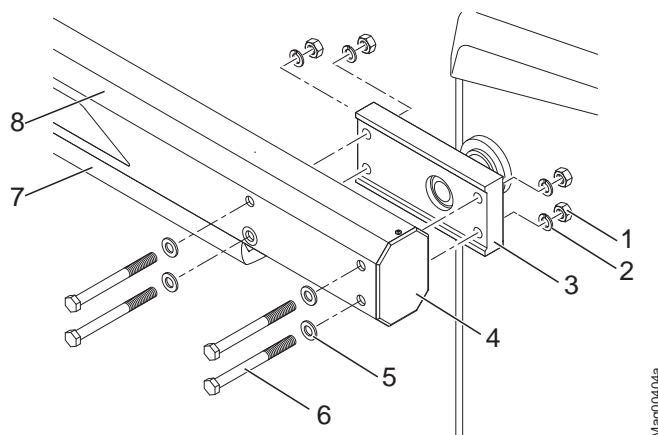

Fig. 39: Remove barrier boom
19. Install the barrier boom with two persons with the horizontal flange. → See page 78, Fig. 39.